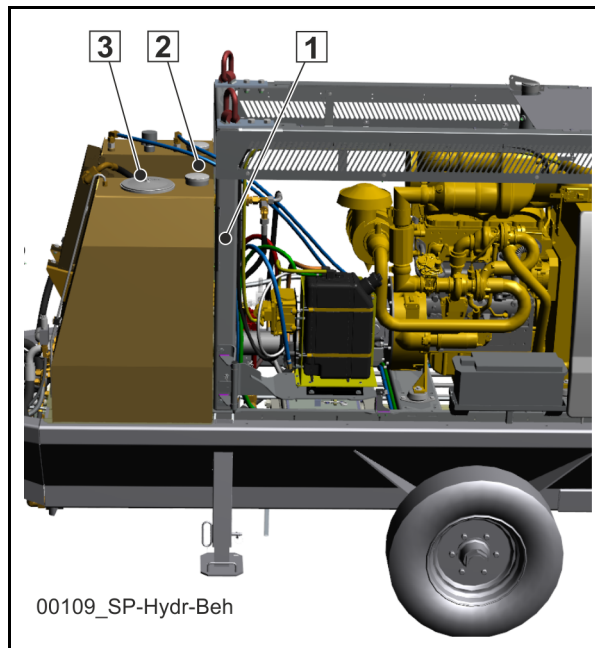

Fig. 31
Check the hydraulic oil level in the reservoir. The hydraulic oil box is located on the left in the direction of travel. The oil level must be visible between “min” and “max” on the level indicator (1) (**Fig. 31**). Top up the hydraulic oil, if possible.
Caption of (Fig. 31)